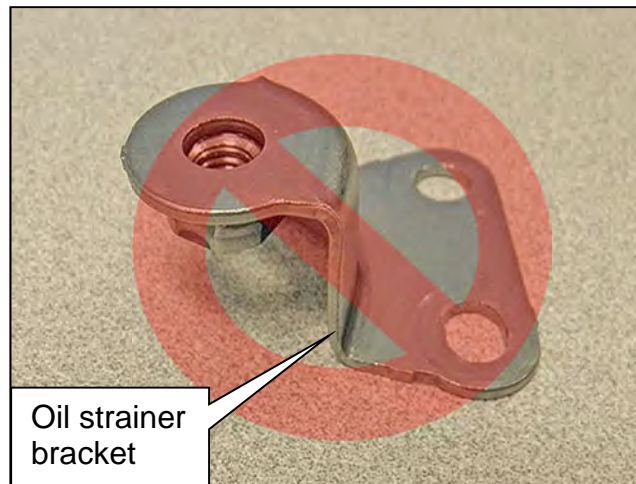

Figure 161
**HINT:** If an oil strainer bracket was removed, do not reinstall it. An oil strainer bracket (Figure 161) will not be used with the new oil strainer.